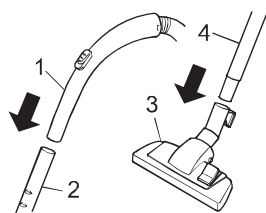
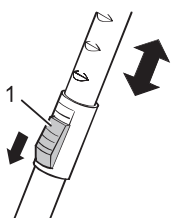

Fig.3
Fig.4
2. Insert the handle (Fig. 3/1) into the upper end of the telescopic tube (Fig. 3/2).
3. Attach the floor nozzle (Fig. 3/3) to the bottom end of the telescopic tube (Fig. 3/4).
4. Adjust the length of the telescopic tube. Press down the release latch on the tube to (Fig. 4/1) do this. Then pull the handle of the telescopic tube to extend (Fig. 3/1) it to your desired length. Let go of the release catch while pulling until it locks in place. You will hear a distinct click.